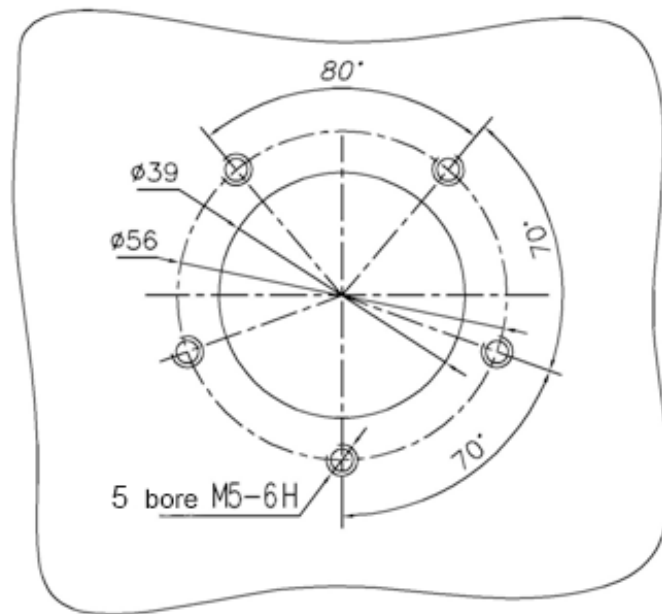

Figure 10 — Bores layout for DUT-E mounting plate fastening
DUT-E delivery set contains a mounting plate. The layout of the bores for the mounting plate fastening is shown in Figure 10.
- 2) mark and drill bores according to bores layout for DUT-E mounting plate (see Figure 10).